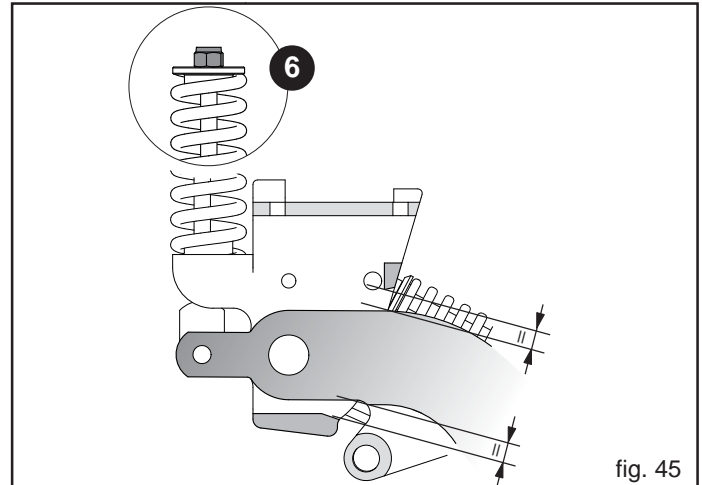

fig. 45
- 3) Check that the element is in an intermediate stroke position (Fig. 45).
- 4) If necessary adjust all the position springs by means of the nut (6, Fig. 45) until you reach the position described at point 3).